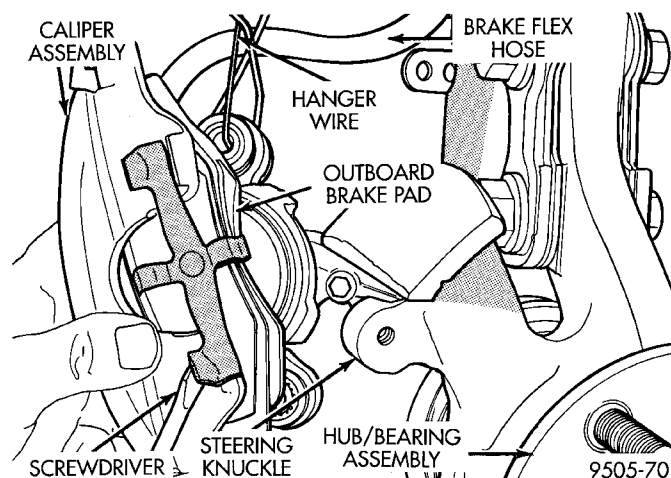

Fig. 62 Removing Outboard Brake Shoe
(7) Remove outboard brake shoe by prying the shoe retaining clip over raised area on caliper. Then slide the brake shoe down and off the caliper (Fig. 62).